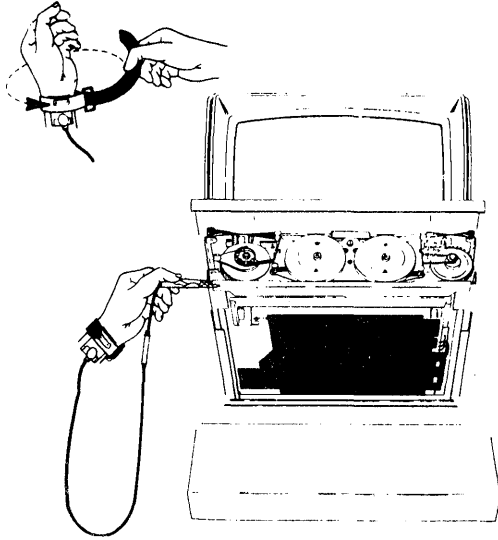

Fig. 8—346392 Static Discharge Strap
4.02 The 346392 static discharge strap must be worn when handling the printer card outside its protective bag. Attach the strap tightly to wrist as shown in Fig. 8. Attach clip end of static discharge strap to frame ground.